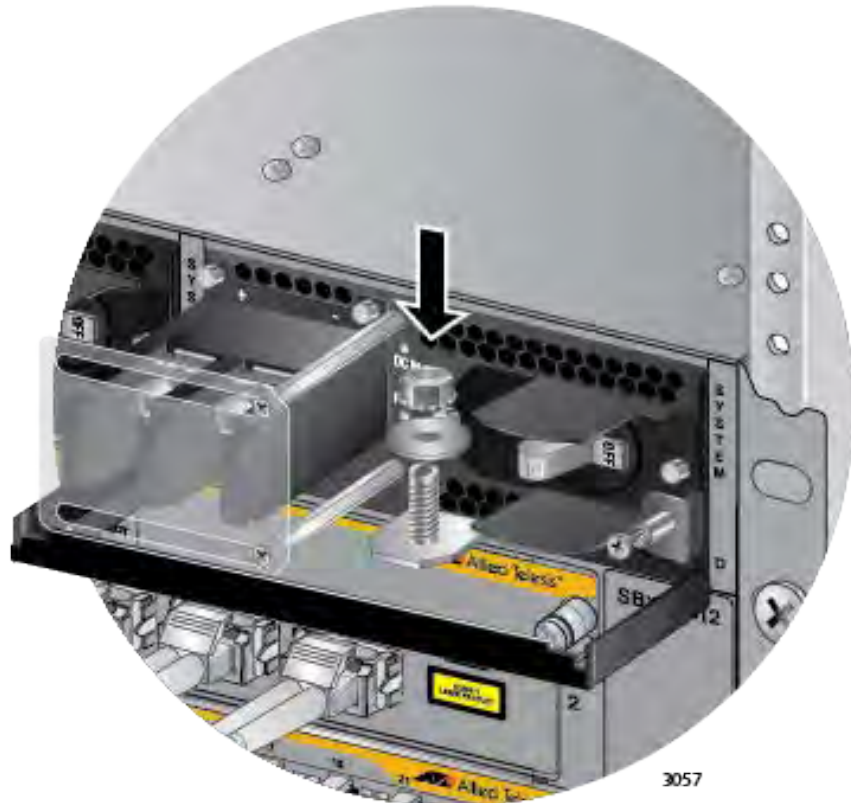

Figure 170. Reinstalling the Nut and Washer on the Grounding Post
10. Reinstall the nut and washer on the grounding post. Refer to Figure 170 on page 279.